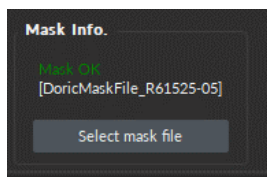

Figure 7.43: Mask correctly added
3. Once the file is selected, the following message will be displayed in the **Mask Info.** box above the **Select Mask File** button: **Loading Masks** and then **Mask OK** (Fig. 7.43). This is replaced by **Masks Loaded** once loading is complete.